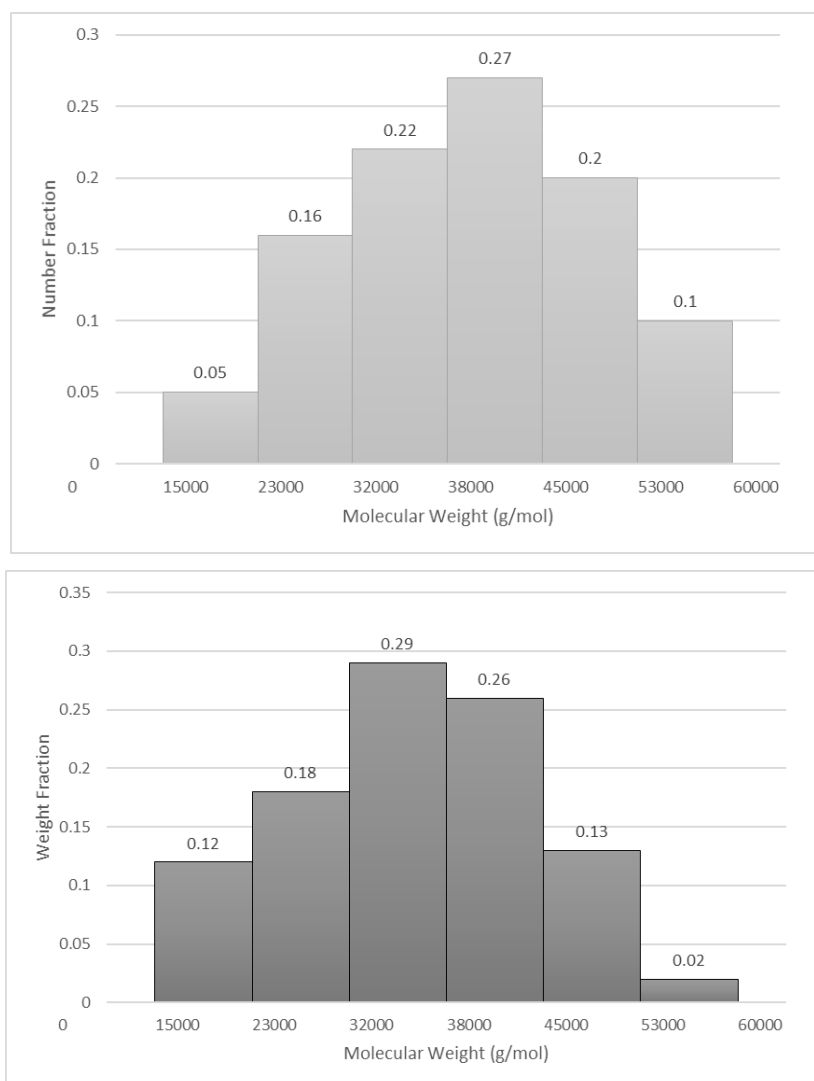

Figure 1c(i): Molecular Weight Data / Rajah 1c(i): Data Berat Molekul
- (c) During your internship under the research and development unit, you have been requested to study about Acrylonitrile Styrene Acrylate (ASA) $C_{18}H_{23}NO_2$ data in Figure 1c(i).
- i. Figure 1c(i) shows the hypothetical polymer molecule size distributions on the number and weight fractions of ASA. Calculate the weight average molecular weight (M_w).